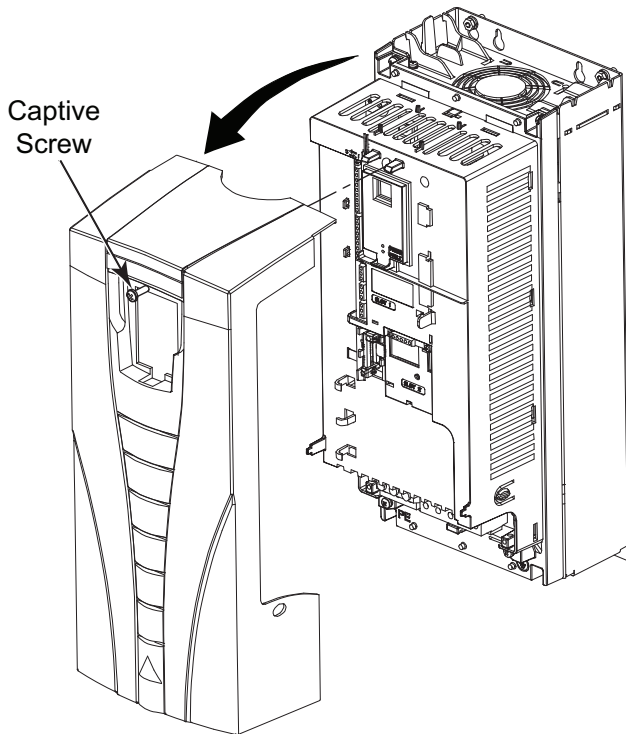

Fig. 35 — Remove ACH550 VFD Front Cover
2. Remove the drive cover (see Fig. 35).